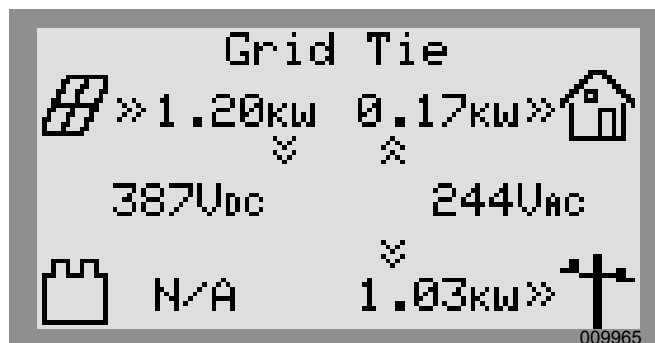

Figure 6-2. Selecting Operational Modes (1 of 4)
1. See **Figure 6-2**. While viewing the home screen press the center button.